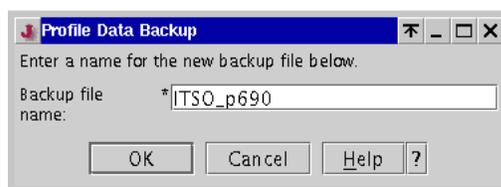

Figure 5-3 Profile Data Backup window
2. From the menu bar, choose **Selected** → **Profile Data** → **Backup** to open the Profile Data Backup window shown in Figure 5-3.